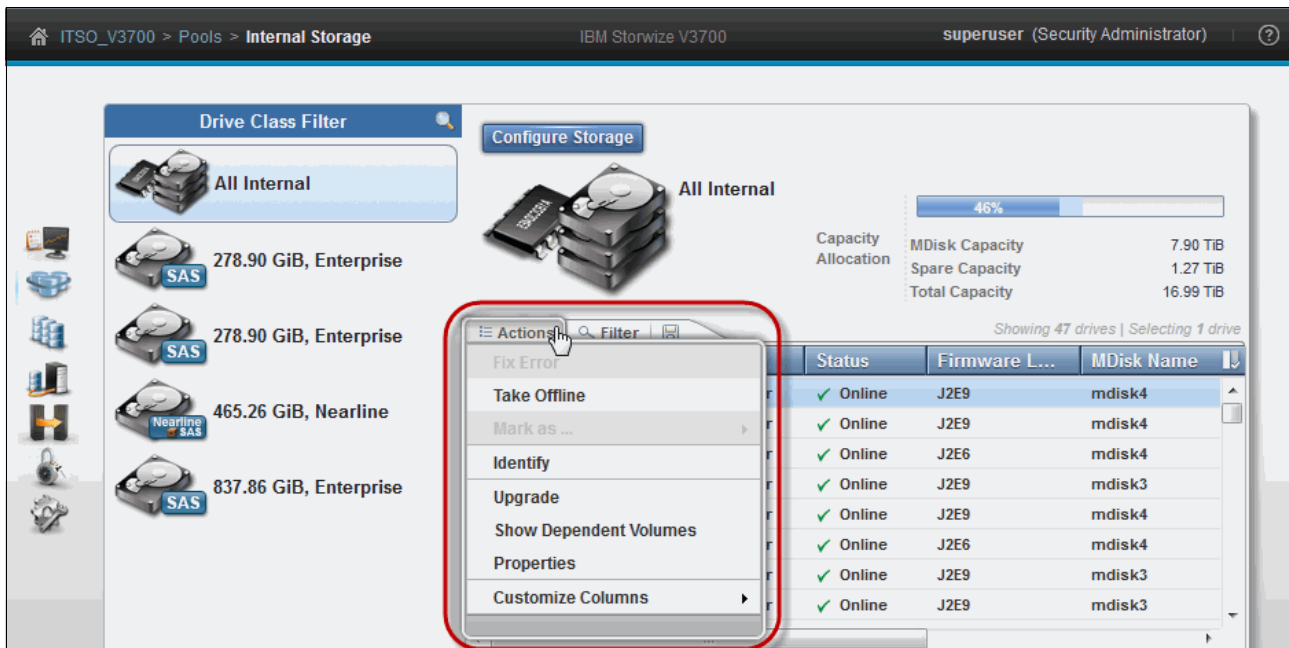

Figure 3-12 Actions menu
- ▶ Highlight the resource and use the Actions drop-down menu, as shown in Figure 3-12.